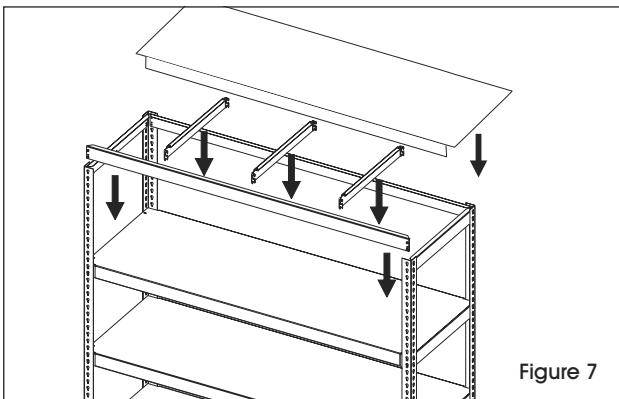

Figure 7
7. Attach remaining front/back support and shelf supports. Lay the last steel shelf on the shelf supports. (See Figure 7)